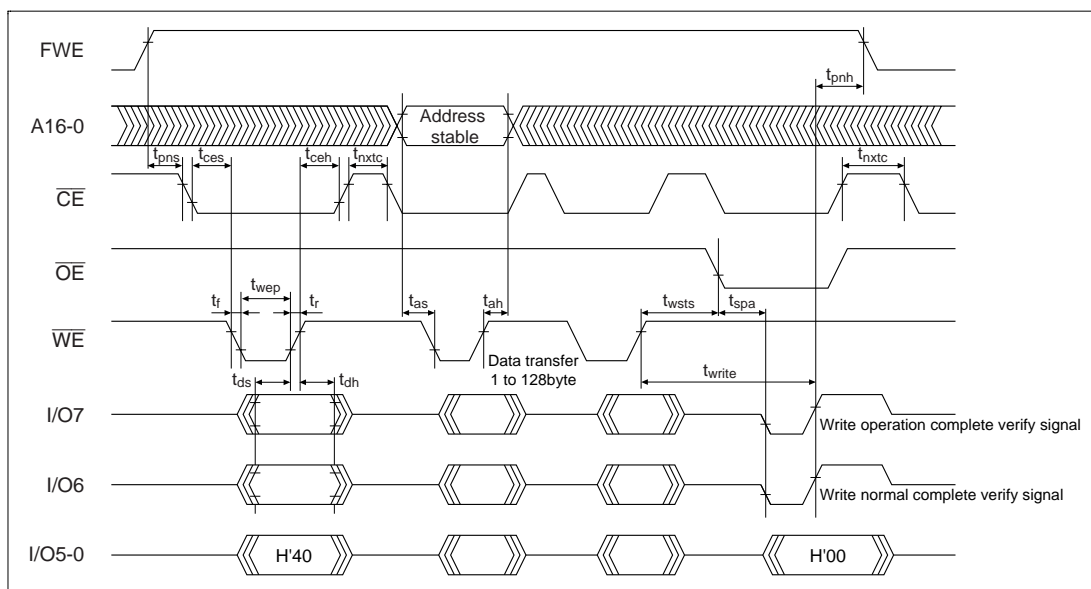

Figure 18.24 Auto-Program Mode Timing Waveforms
4. Memory address transfer is performed in the third cycle (figure 18.24). Do not perform transfer after the second cycle.